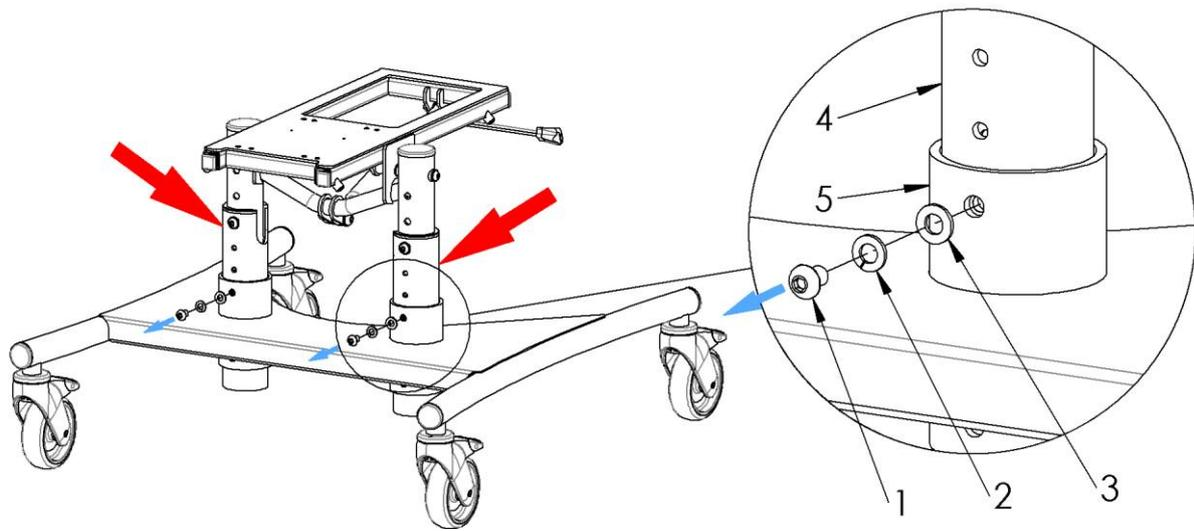
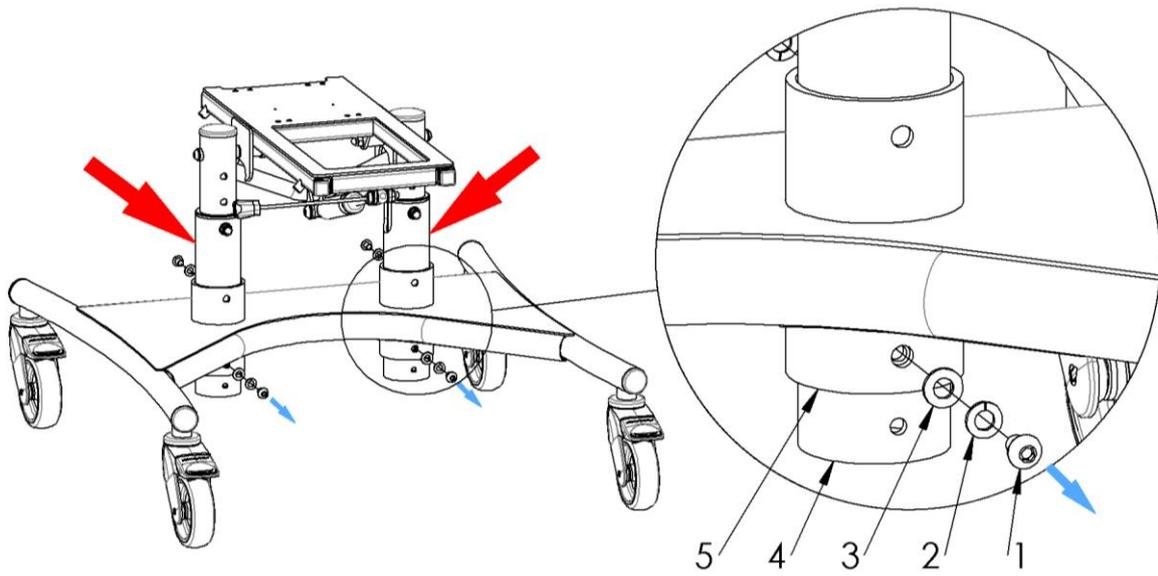
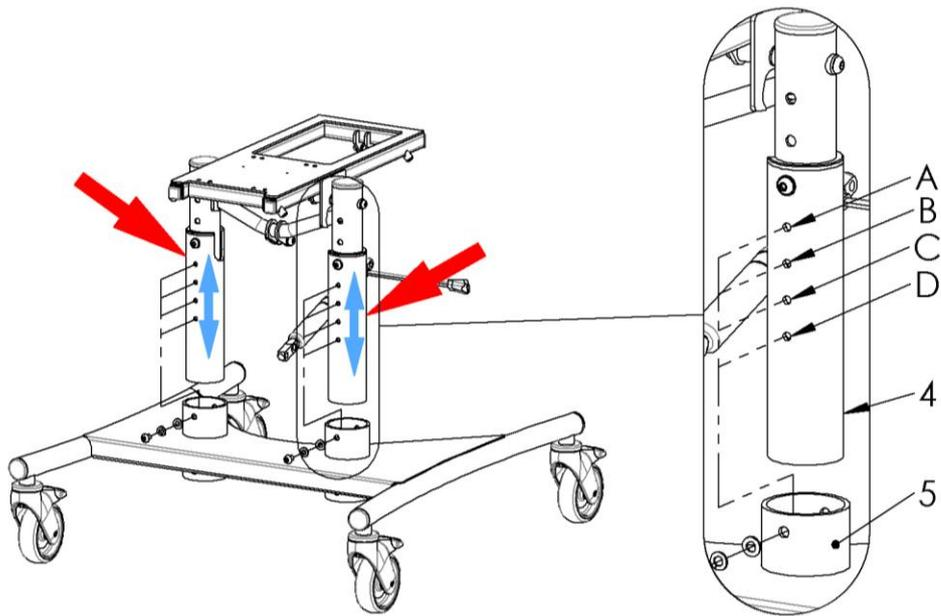

Fig. 10
Fig. 11
Fig. 12
Adjusting the height of the seat height is done in two stages. The first range allows adjustments in the range of 12cm, every 3cm. Firstly, remove the screws (1) together with the washers (2) and (3) from the bar (4) Fig.10 and Fig.11. Next, set the required height of the bar (4) Fig. 12 so that the screws can be inserted again in to the slots in the base (5).